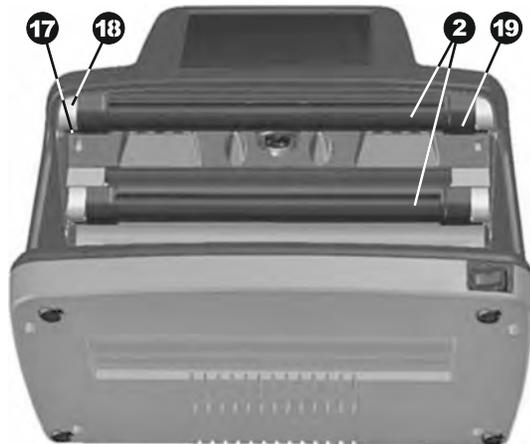

Fig. 23. Removing of the UV-lamp protection cover
1. You should remove the failed lamp together with its protection covers (19) out of the holders (18) (see Fig. 23).